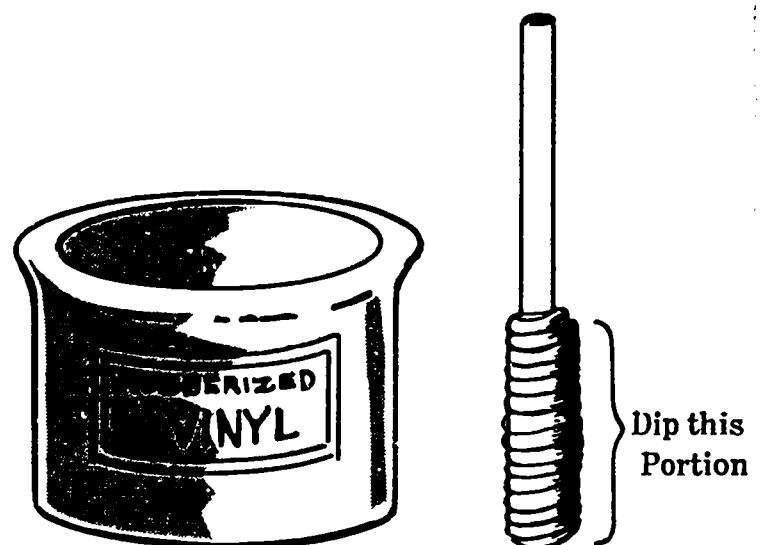

Fig. 67-2. Setup for Dipping Handle
- When the sprayed end of the handle has dried, hold the dry, sprayed end in your hand and dip the corded portion into the rubberized vinyl. See Fig. 67-2.